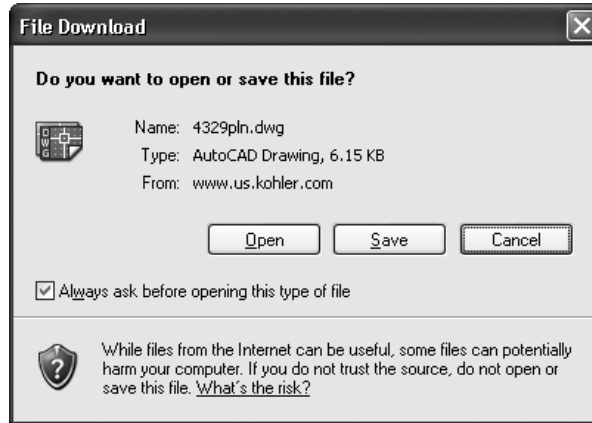

Figure 4-1.4a Saving a file from the Internet
- Click **Save** in the *File Download* dialog box (Figure 4-1.4a).